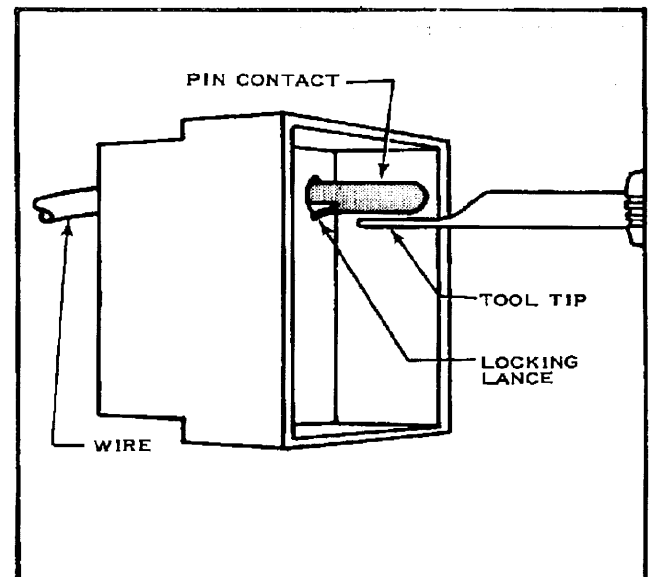

Fig. 3
- Place Tool Tip against Locking Lance on Pin Contact as shown in Figure 3.
- Use Tool Tip to depress Locking Lance enough to remove Contact from Housing. Then pull on Wire to remove Contact from Cavity. See Figure 3.